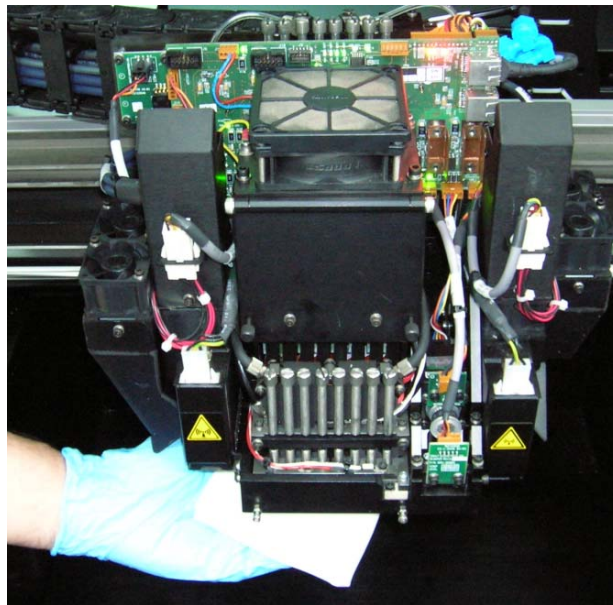

Figure 7-21: Cleaning the heads
- Clean the orifice plates, with a back-and-forth motion (see figure 7-21). Use the mirror to make sure that you have removed all of the residue material.